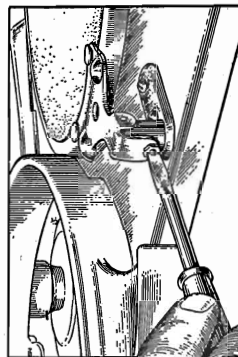

Figure 10—Record transfer lever adjustment
- (c) Improper height of record transfer lever. The small plate on top of the motor board at the left side of the turntable should be so adjusted that it will depress approximately $\frac{1}{32}$ " when the magazine swings over the turntable. When this adjustment is made correctly, the transfer lever will engage the bottom record in the magazine as the latter is swinging back into the playing position. A small adjusting screw and lock nut are provided for this adjustment. See Figure 10.
Referring to Figure 10, the schematic diagram, it will be noted that a common lead is used for the pilot lamp and the selector buttons in the remote control box. By doing this, when a selector button on the box is pressed, the current through the common lead is increased, likewise the voltage drop in the lead is increased. The result is that while the motor is running the pilot lamp becomes very dim. As soon as the motor stops, the lamp flashes bright, thus indicating that the motor has stopped and the station is tuned in. If the station is not then heard, it is necessary to press the + volume control button a little at a time until the desired output level is obtained.